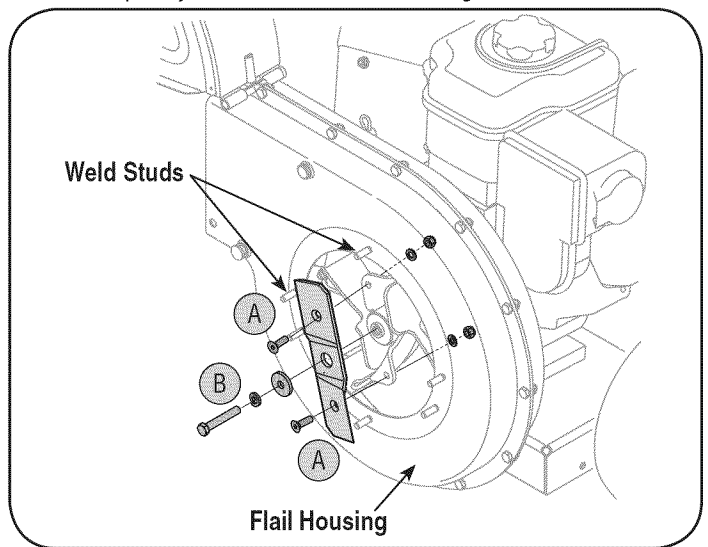

Figure 16
5. Carefully separate the hopper assembly from the impeller assembly and remove the shredder plate. The shredder plate can be identified by referring to item 29 in the parts list on page 20 & 21.
B. Remove the hex bolt, lock washer, and flat washer to completely free shredder blade. See Figure 16.